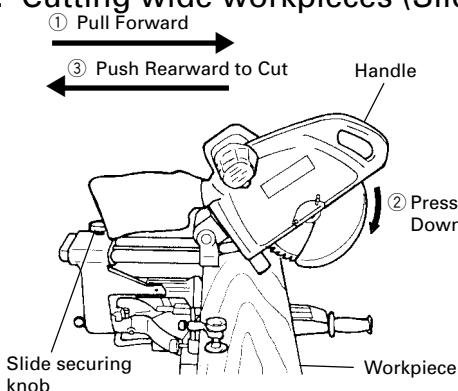

Fig. 21
Then press down on the handle and slide the saw blade back to cut the workpiece as indicated in Fig. 21. This facilitates cutting of workpieces of up to 4-7/32" (107mm) in height and 12" (305mm) in width.
- ⚠ WARNING:** * For slide cutting, follow the procedures indicated above in Fig. 21.